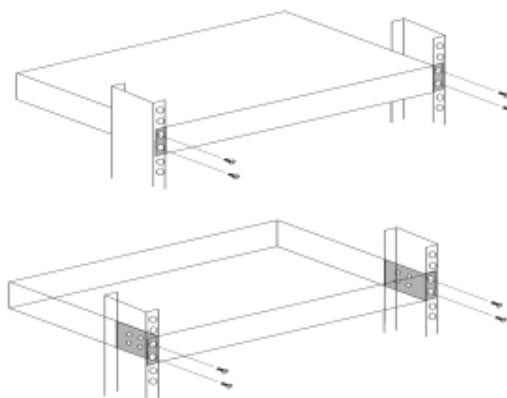

Figure 2-1. FOS-5152 Switch Rack-mounting
**Step 2.** Align the mounting holes in the brackets with the desired holes in the rack, and insert screws through each bracket and into the rack. (See Figure 2-1)